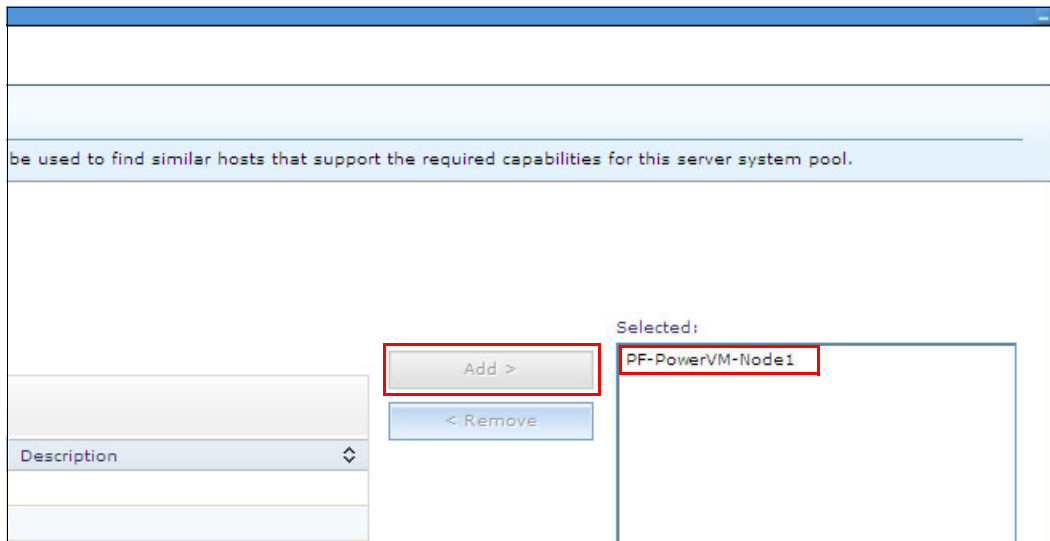

Figure 10-105 Selecting a physical server (part 2 of 2)
4. Click **Add** as shown in Figure 10-105.